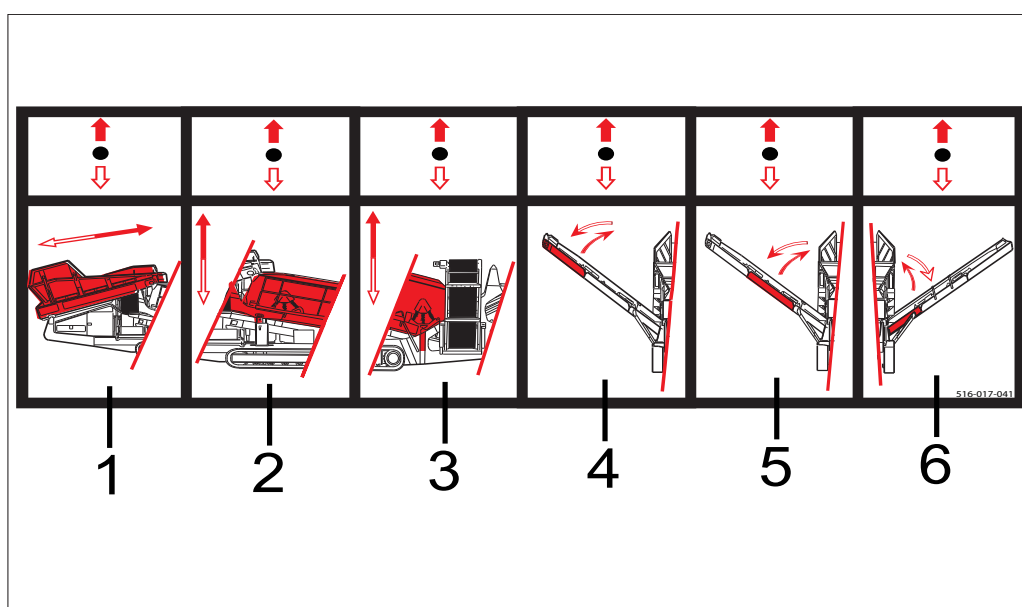

Figure 5.15 - RHS Control Bank Decal
4. Using lever 4 (Reference: Figure 5.15), fold the head section approximately 30% to give some slack on the belt.
8. Fold the mid-section of the conveyor over the top of the machine using lever 5 (Reference: Figure 5.15).